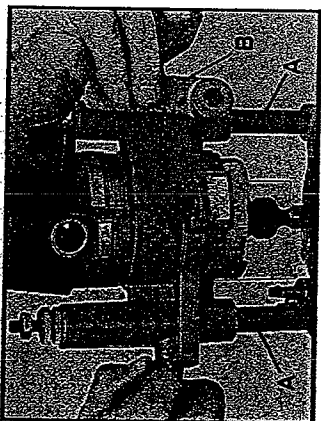

Fig. 9
DO NOT ALLOW WRENCHES TO CONTACT COLUMNS (A) FIG. 9, AS COLUMNS MAY BE DAMAGED, RESTRICTING PLUNGE ACTION. NEVER TIGHTEN COLLET NUT WITHOUT BIT INSERTED. TO DO SO MAY DAMAGE COLLET.
3. Increase plunge mechanism by pulling the locking lever (B) Fig. 9, to the left and lower plunge mechanism until the router bit just touches the work surface. Release lever and push to the right to lock mechanism in position.